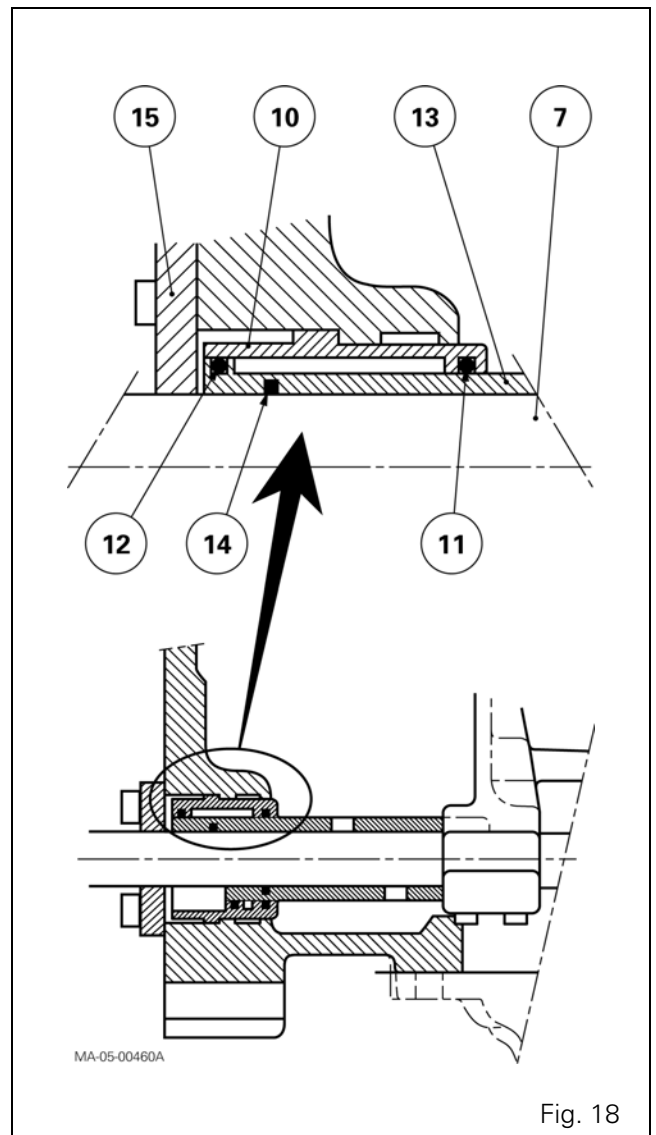

Fig. 18
65. Check that the hydraulic ports in the Hare / Tortoise cylinder (10) are not obstructed. Refit the cylinder fitted with a new O' ring (11) (Fig. 18).
The cylinder (10) is held in position (Fig. 18):
- at the rear, by the cover (15).
67. On the piston (13), fit O' rings (12) (14), then introduce it into the cylinder bore (10) and onto the selector rail (7) (Fig. 18).